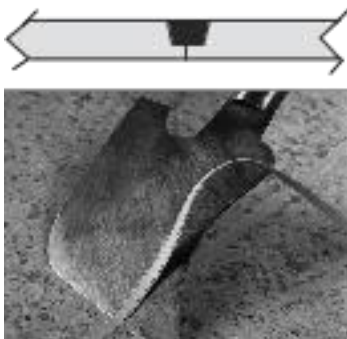

Figure 7
- After the weld rod has cooled to room temperature, remove the remaining excess weld rod on the second pass by holding the spatula knife flush with the flooring (Fig. 7). Smooth, continuous passes result in smooth seams. Repeated stop/start actions result in rough seams.